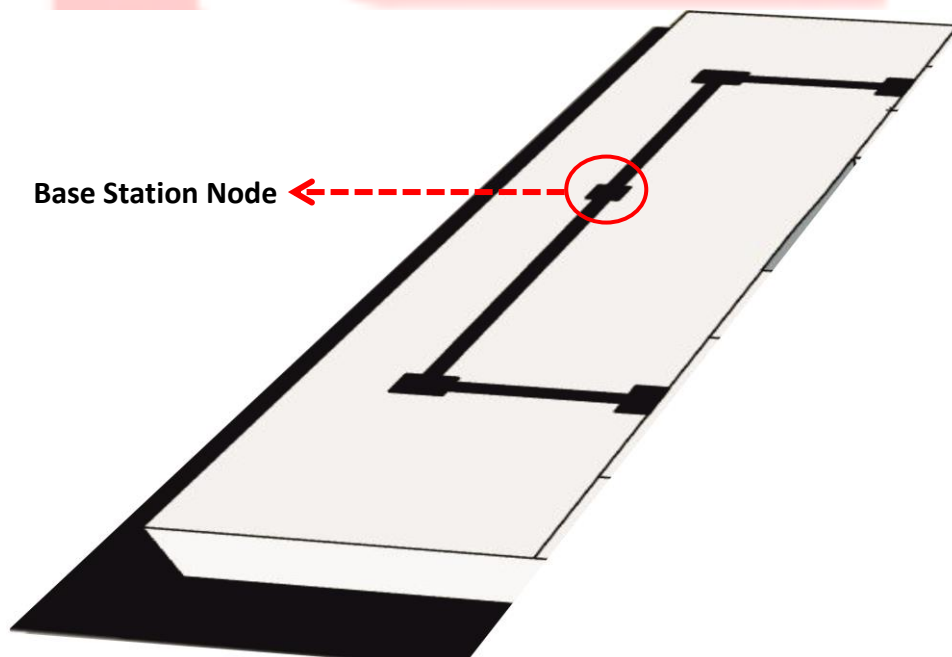

Figure 3: Base Station
- Base Station:** this region comprises of a Base Station Node representing the end point for navigation as shown in Figure 3.